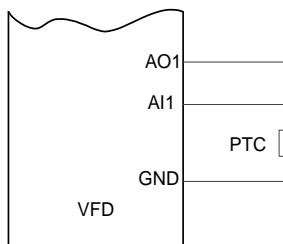

Figure 5-23 Wiring between PTC and analog terminals
1. Connect the PTC according to Figure 5-23 Wiring between PTC and analog terminals.